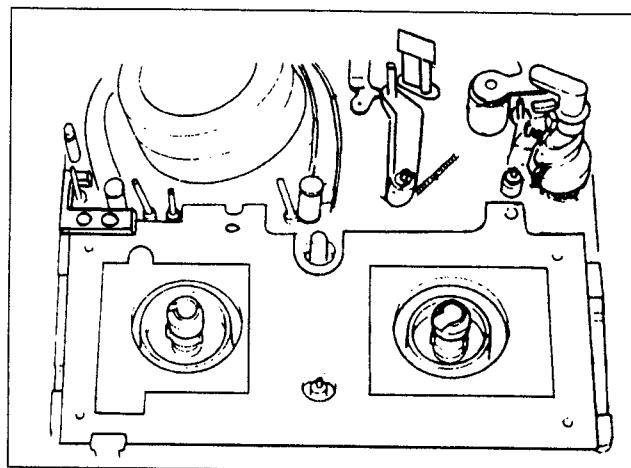

Figure M38-B
4. Push the Sub Wiper Arm (R) to direction of Cassette loading. Then the Sub Wiper Arm (R) goes down it self and mode of machine change to STOP.
8. Place the Tension Post Position Adjustment Plate with the Fixture over the reel tables as shown in Figure M38-B.